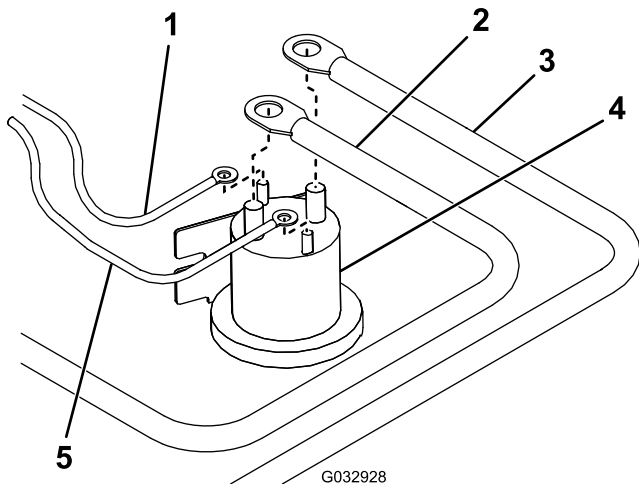

Figure 18
18. Connect the white/black wire from the long wire harness to the small post on the pump solenoid (Figure 18).
19. Connect the brown wire from the long wire harness to the other small post on the pump solenoid (Figure 18).
21. Connect the red power/ground cable to the large post on the pump solenoid (Figure 18).
22. Connect the battery cable to the other large post on the pump solenoid (Figure 18).